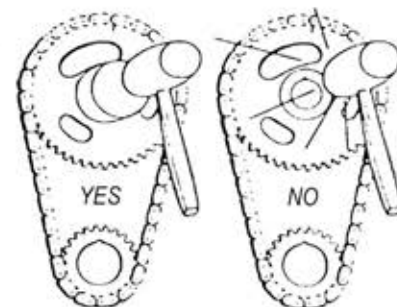

Figure 1 - Use a sleeve to install press-fit sprockets
- **USE A SLEEVE** for installations that require hammering (see Figure 1). A brass drift punch may be used if you carefully alternate blows on either side of the sprocket to avoid cocking.